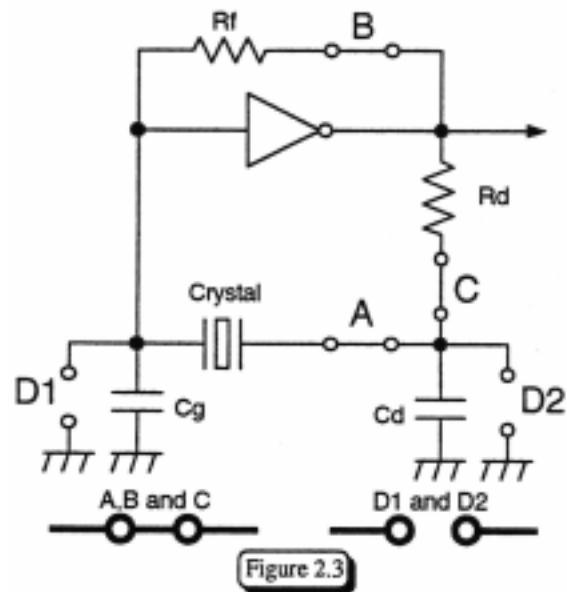

Figure 2.3
There are some parts positions that are useful for the evaluation even for parts that will not be used. Figure 2.3 shows five (5) positions A, B, C, D1 and D2 which will be used for additional devices during the evaluation. The following explains the purpose of these positions: